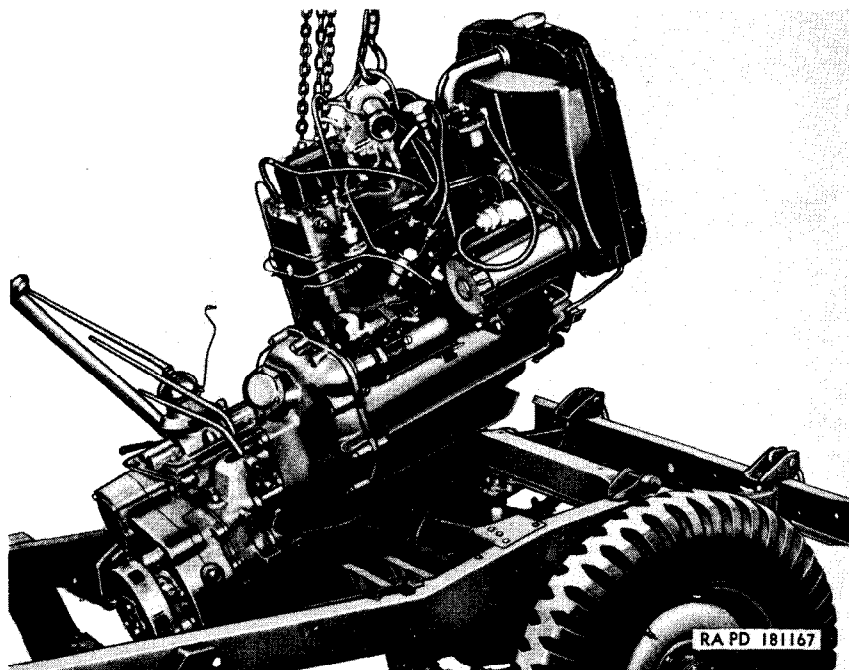

Figure 31. Removing power plant.
g. Disconnect Fuel Line to Fuel Pump. Disconnect fuel line (W) from fuel pump at the flexible fuel line-to-fuel pump connector (X).
h. Remove Power Plant. Tighten sling and raise power plant until transmission just begins to clear rear mounting support cushion with studs assembly (Y). Move transmission end of power plant to the
right until the control lever with tube assembly (Z) frees the control lever tube ball stud (AA) mounted on transfer. Lift power plant from frame as shown in figure 31.